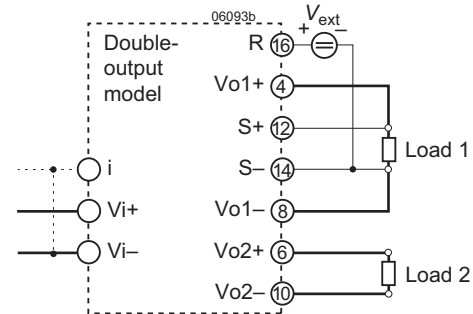

Fig. 20 Output adjust using an external control voltage V_{ext} .
- a) Adjustment by means of an external control voltage V_{ext} between R (pin 16) and S- (pin 14); see fig. 20.